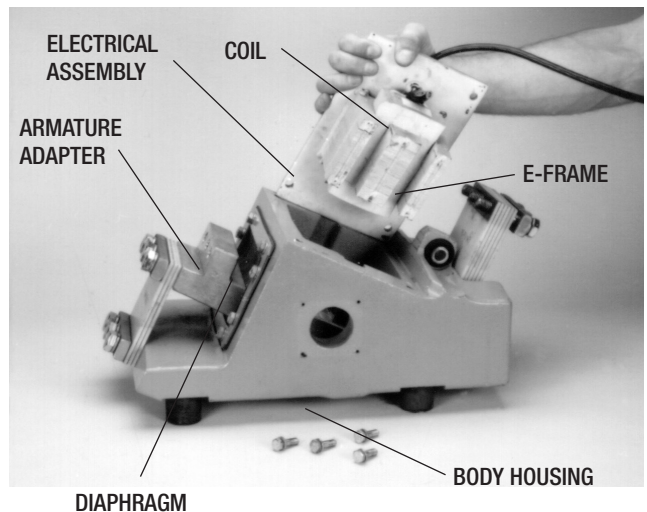

FIGURE 7
3. Remove the bolts securing the electrical assembly to the body housing and lift the assembly out of the body housing (see Figure 7) (careful strong magnet).